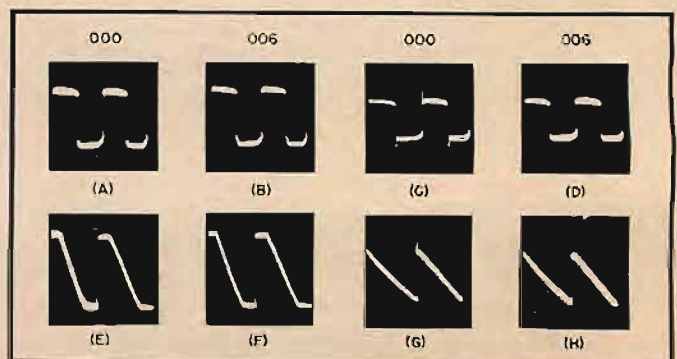

Fig. 7. Overload and rated load. (A) to (D), square waves; (E) to (H), sawtooth, each 1,000 cps. Spikes show only at rated load or less.
Figure 7 shows pictures of voltages across the output resistor, using the same amplifier, first for square- and then for sawtooth-wave inputs, each at 1,000 cps. This amplifier, which will be described further with regard to Fig. 6, "rings" when there is a capacitor of less than .006  $\mu$ f across the feedback resistor. For the square wave, the amplifier is overdriven in (A) and (B) of Fig. 7, but no difference is shown in the picture. The amplifier just cannot ring, cannot go any further positive or negative. Contrast these with (C) and (D) where the normal output of the amplifier is being supplied to the load. In (C) the sharp peaks show ringing. These peaks are completely eliminated when .006  $\mu$ f is used, with the result shown in (D).
Overloading shows as a flattening of the top and bottom of the sawtooth in both (E) and (F) of Fig. 7. As in the square wave, both these figures are alike, the ringing cannot occur because the amplifier is delivering its peak output. The major difference between the results of square and sawtooth is that overload is shown only by the sawtooth. This is an important difference, its information is useful.
1. Increase the gain of sawtooth input to amplifier, until CRO shows clipping of top and bottom, as in (E) or (F) of Fig. 7.